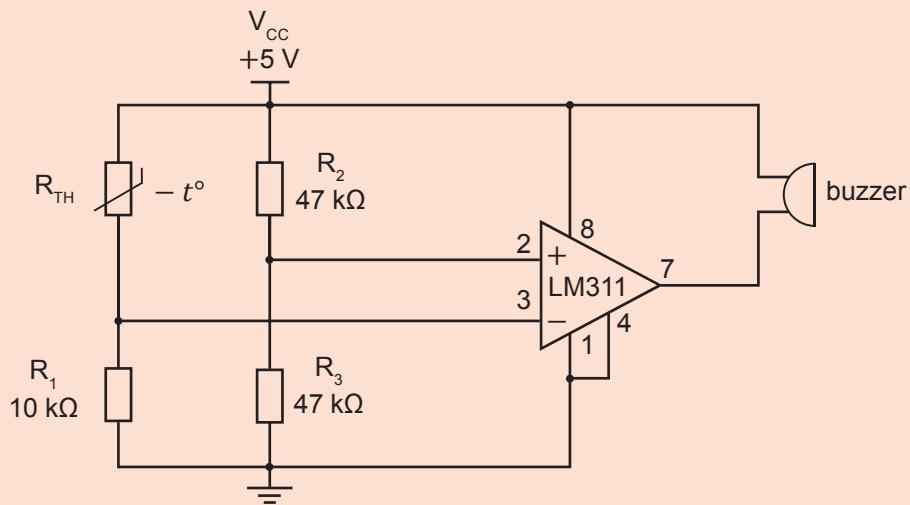

Figure 14.14
2. Explain the operation of the circuit shown in Figure 14.14.